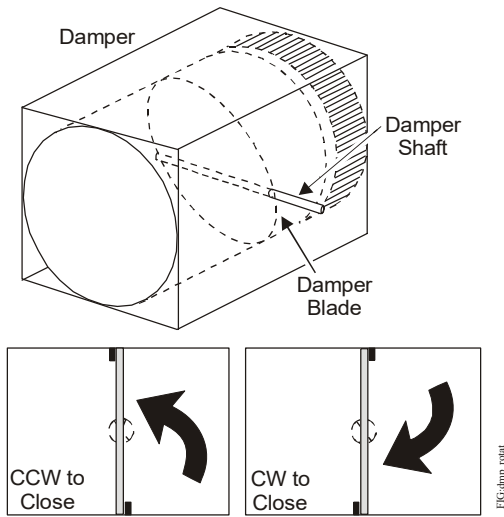

Figure 3: Damper rotation
- Grasp the damper shaft firmly with pliers and rotate the damper fully closed, as illustrated in Figure 3.